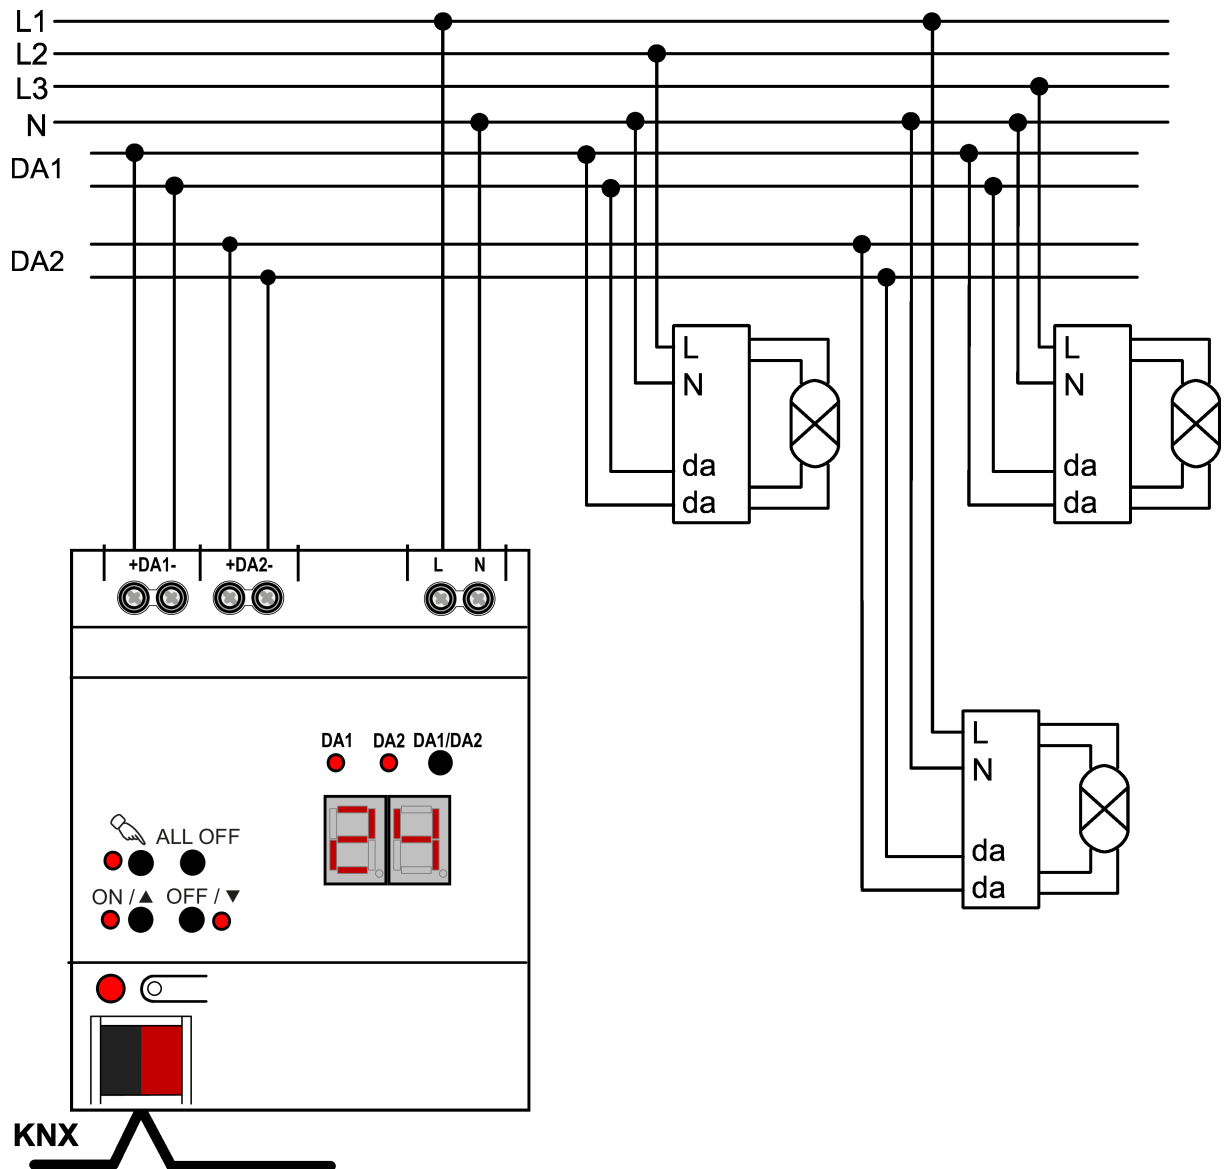

Figure 3: DALI gateway connection example, 2fold
- Connect device as shown in the connection example (see figure 3)